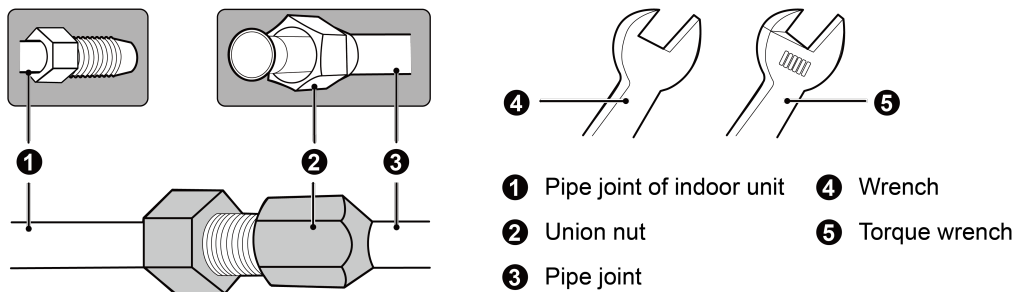

Fig.4.2.1
(1) Aim the flaring port of copper pipe at the center of screwed joint and then tighten the flaring nut with hand as shown in Fig.4.2.1.
(2) Tighten the flaring nut with torque wrench.